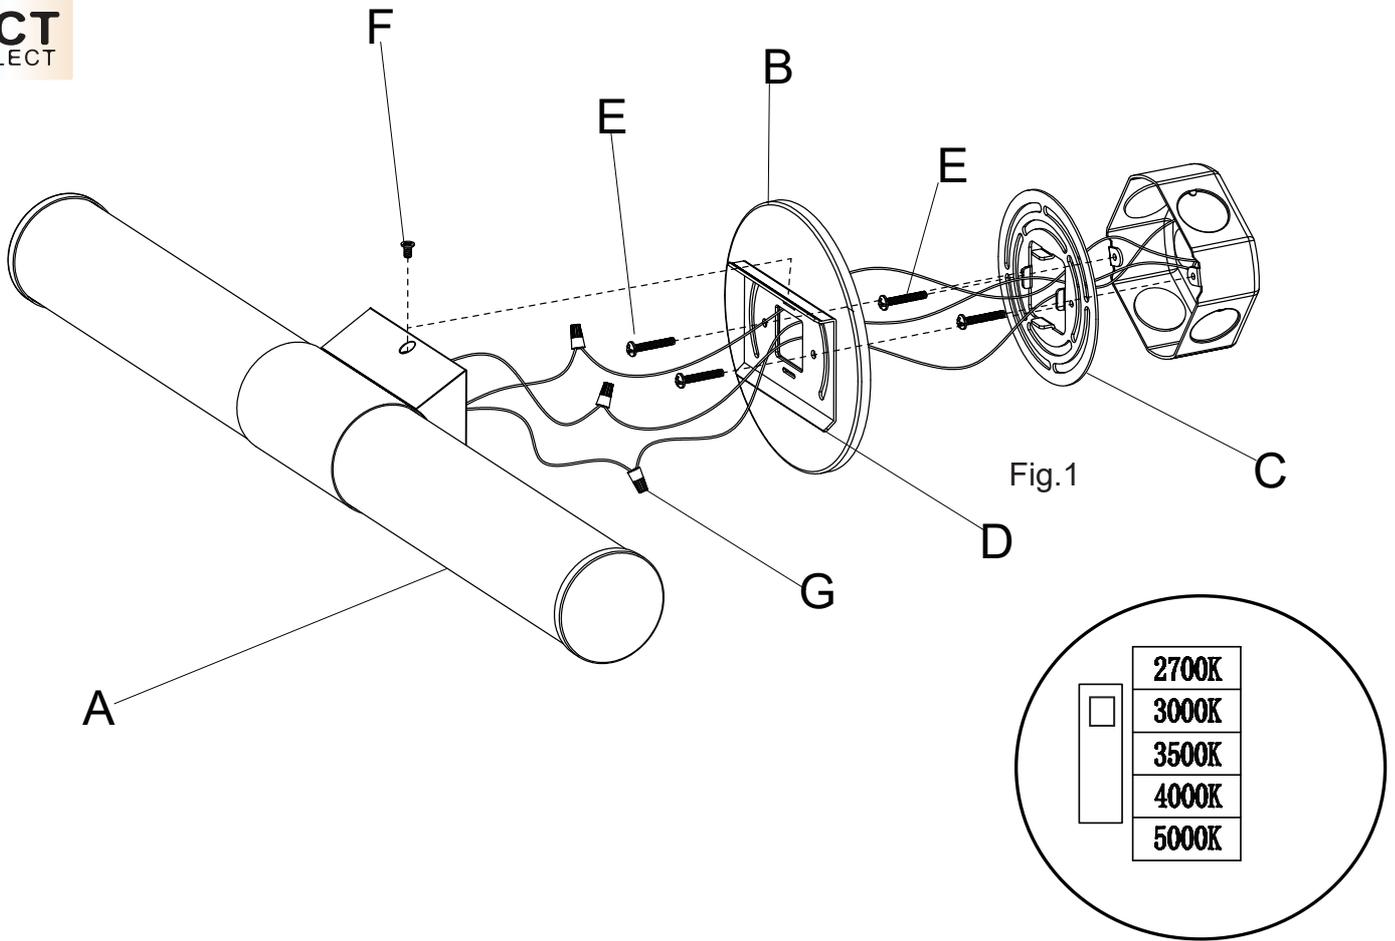

Fig.2
4. Select the desired Color Temperature by setting the sliding switch to the target CCT (See Fig.2)